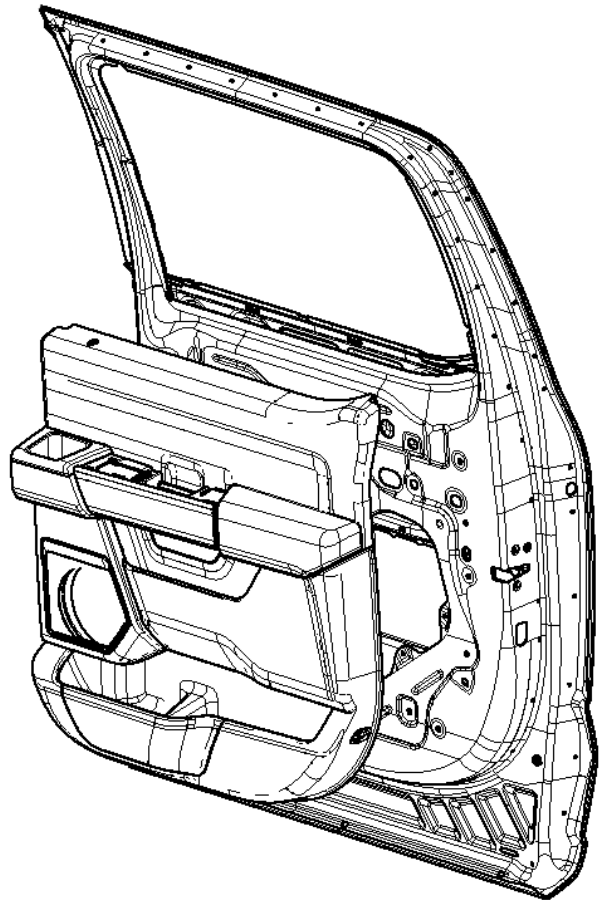

Fig. 1
- B. Choose a side and remove the OEM door panel. (Fig. 1)